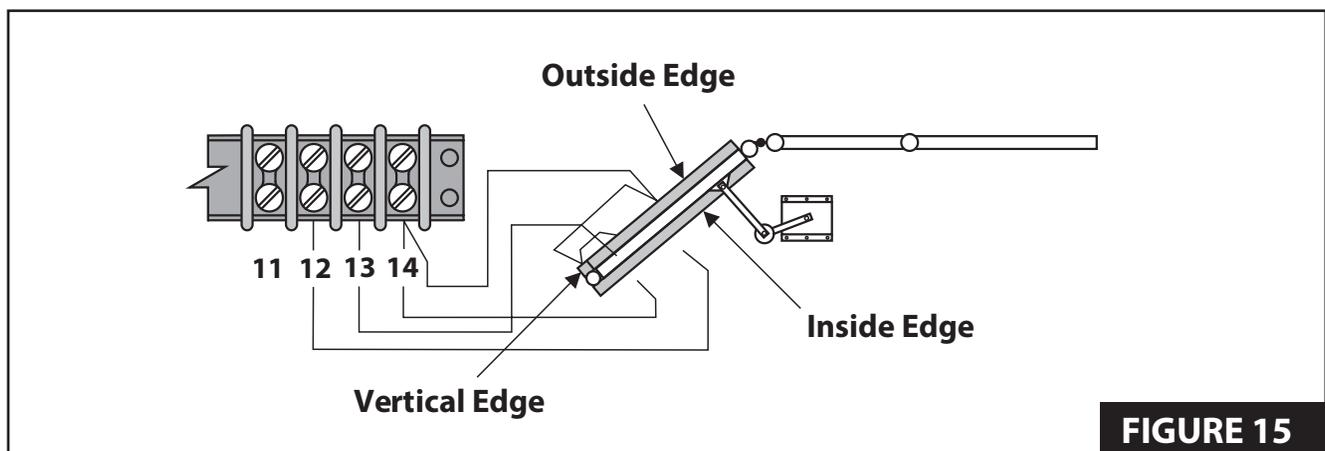

FIGURE 15
2. Connect contact sensor edges to the control board as shown in **Figure 15**.